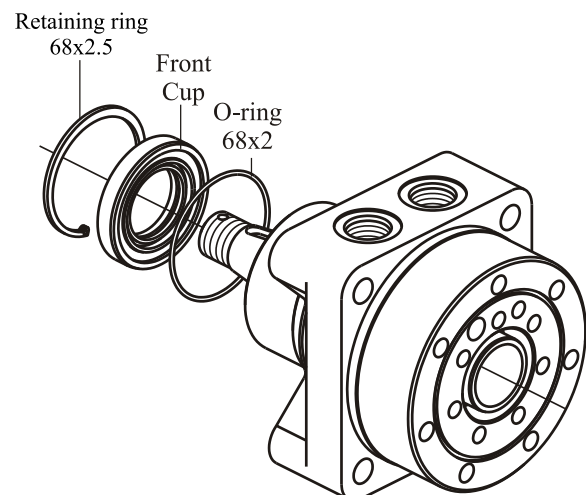

Fig.11
9. Install the front cup incl. assembled seals on shaft. Prevent the seals against damages (see Fig.11).